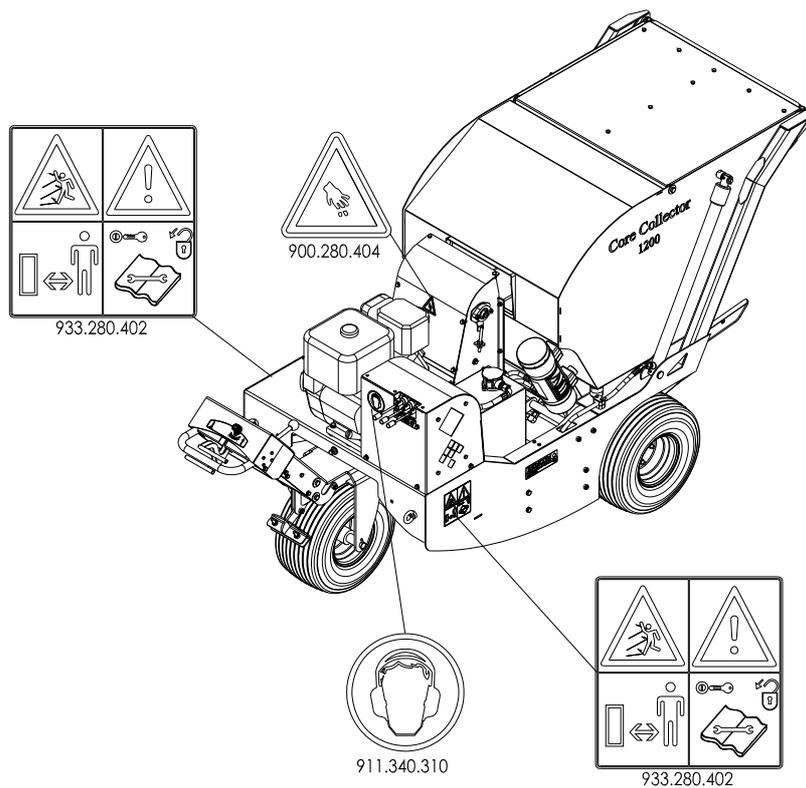

Figure 7
7. Location of the safety stickers (Figure 7).